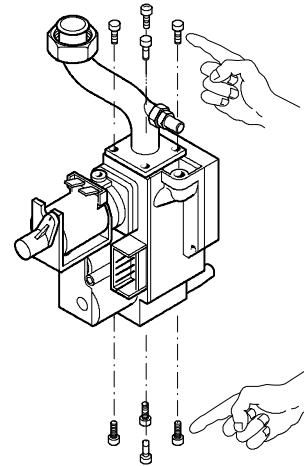

fig. 55
- 4 Unscrew the eight screws indicated in fig. 55 and remove the valve.